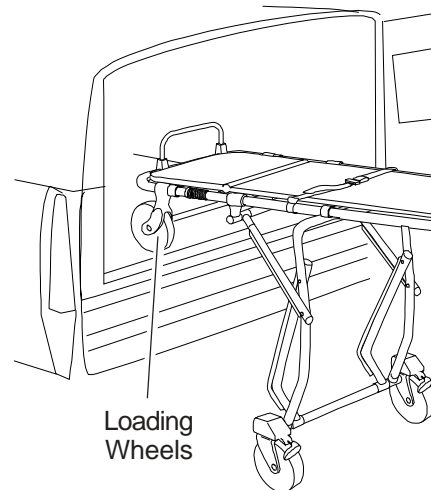

Figure 9 - Unloading Cot
6. Always keep loading wheels on vehicle floor (Figure 9) until loading-end legs have locked into place. Then, lower cot until all four transport wheels are on ground.